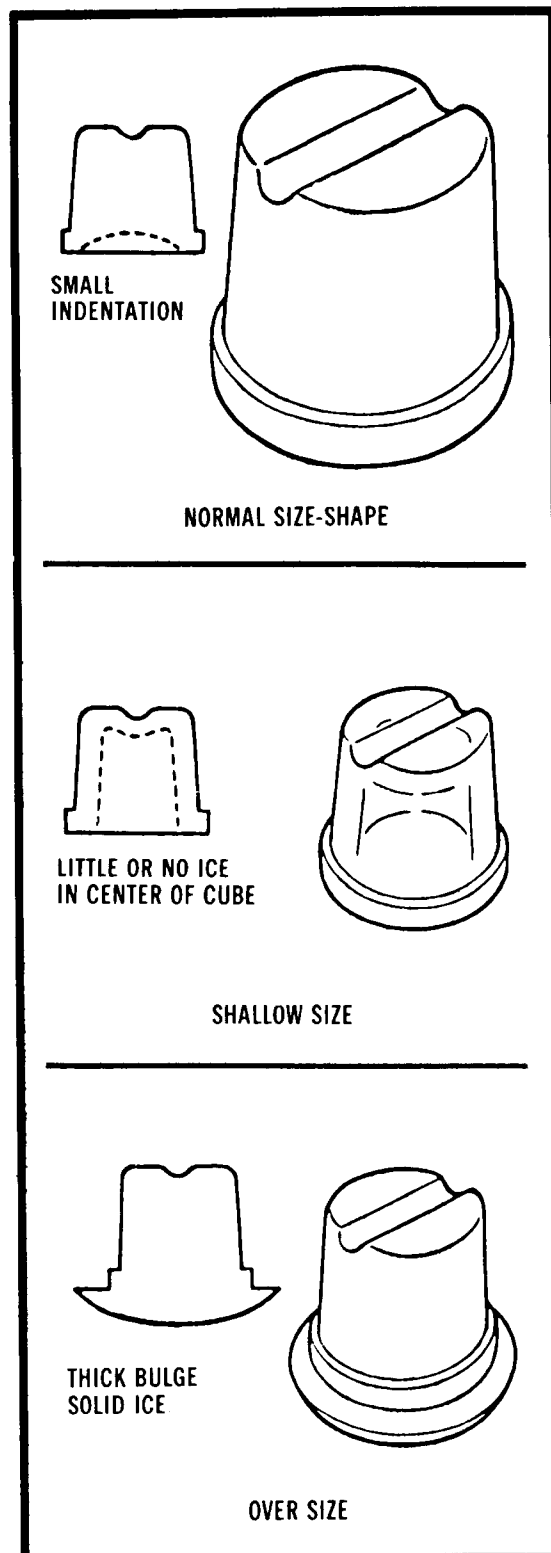

Figure 4-1. Cube Size
If ice cubes are shallow in size (indentation is too deep): See Figure 4-1 Shallow Size.
3. Observe size of ice cubes in next two ice cube harvests and repeat step 2 above, in one-eighth turn increments, until proper ice cube size is achieved. See Figure 4-1, Normal Size-Shape.
3. Observe size of ice cubes in next two ice cube harvests and repeat step 2 above, in one-eighth turn increments, until proper ice cube size is achieved. See Figure 4-1 Normal Size-Shape.